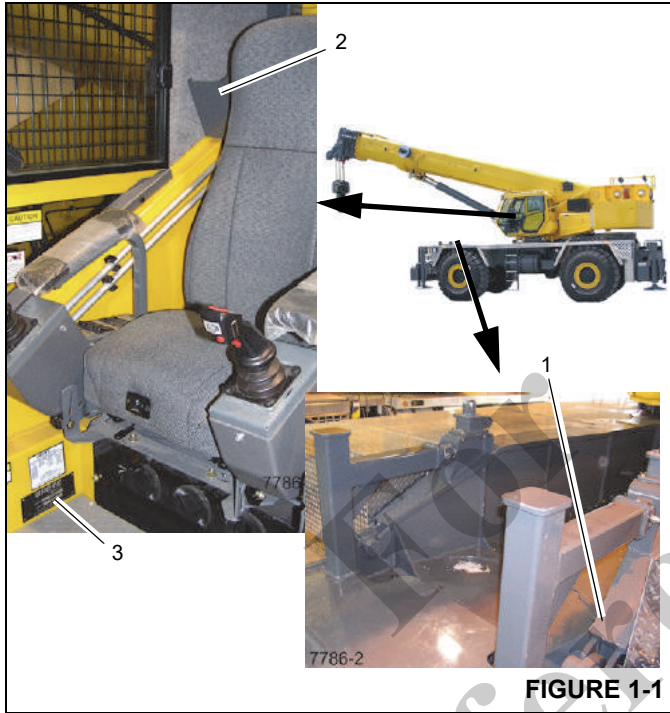

FIGURE 1-1
See Figure 1-1 for your crane's serial number location; stamped on left side of front frame (1), on manual holder in superstructure cab (2), and inside the cab in front of the seat on the right side (3).